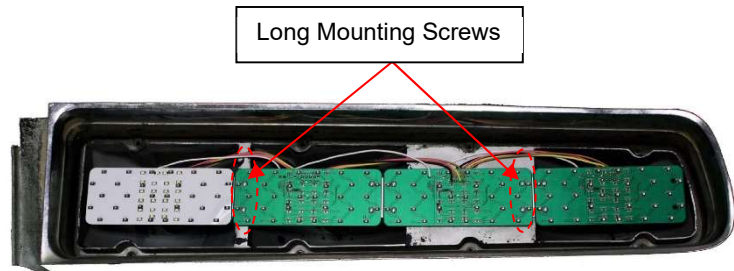

Figure 1
- 3.3. For each taillight housing, position one of the LED assemblies into the taillight housing so the white panel is towards the inboard end and the assembly is centered both horizontally and vertically in the housing. Make a final positional adjustment so the long mounting screws protruding from the LED panel's back side is centered in the middle of the narrow bulkhead separating the back-up light chamber and the center light chamber. (See Figure 1) While holding this position, press down firmly on each of the 4 long screws so they make an indentation into the plastic housing.